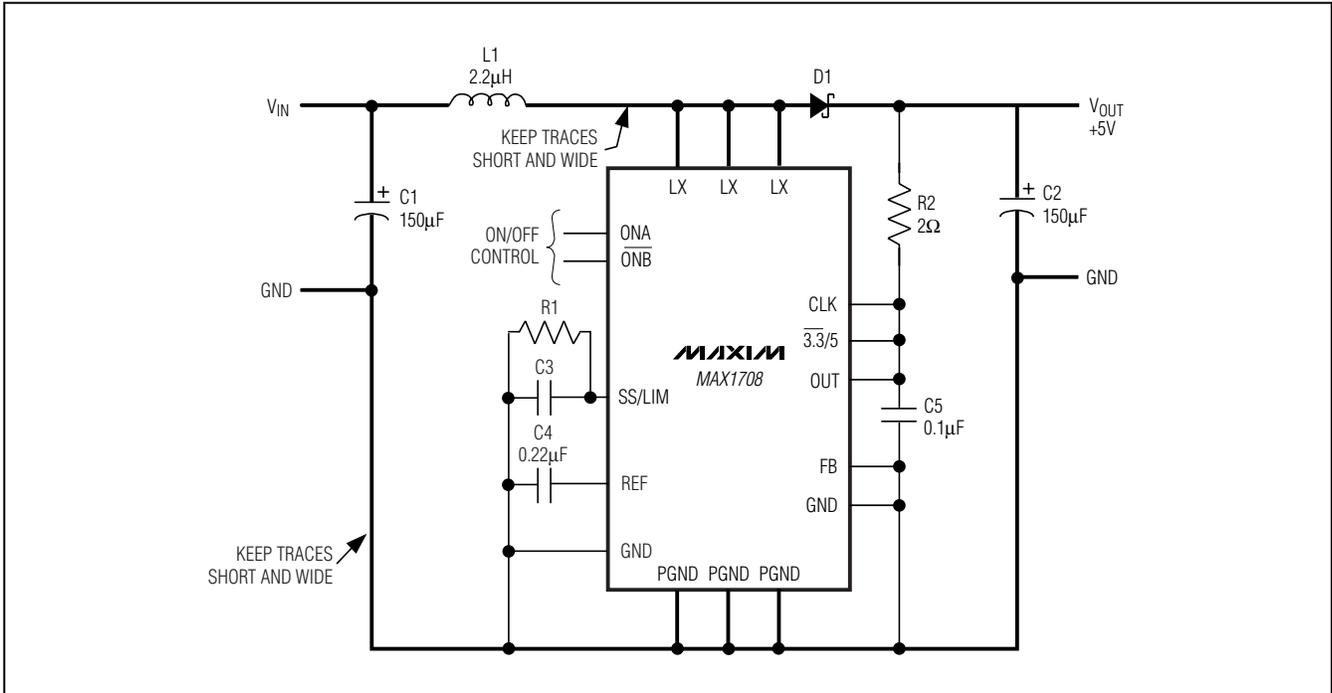
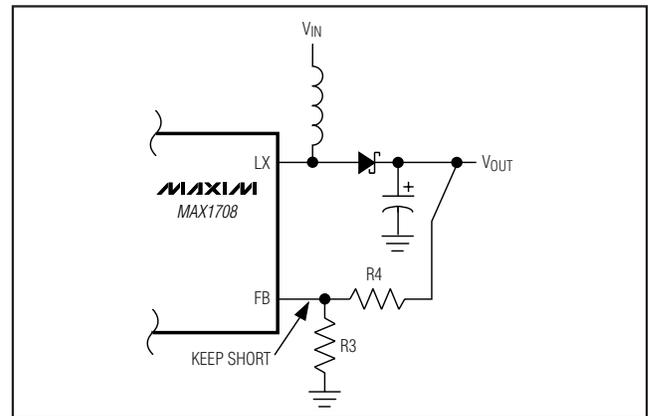

Figure 1. Standard Operating Circuit
Figure 4. Adjustable Output Voltage
Note 4: Startup is tested with Figure 1's circuit. Output current is measured when both the input and output voltages are applied.
(Circuit of Figure 1, $T_A = +25^\circ\text{C}$, unless otherwise noted.)
The MAX1708 features Dual Mode™ operation. When FB is connected to ground, the MAX1708 generates a fixed output voltage of either 3.3V or 5V, depending on the logic applied to the 3.3/5 input (Figure 1). The output can be configured for other voltages, using two external resistors as shown in Figure 4. To set the output voltage externally, choose an R3 value that is large enough to minimize load at the output but small enough to minimize errors due to leakage and the time constant to FB. A value of $R4 \leq 50\text{k}\Omega$ is required
The soft-start pin allows the soft-start time to be adjusted by connecting a capacitor from SS/LIM to GND. Select capacitor C3 (see Figure 1):
To improve efficiency or reduce inductor size at reduced load currents, the current limit can be reduced from its nominal value (see *Electrical Characteristics*). A resistor (R1 in Figure 1) between SS/LIM and ground reduces the current limit as follows:
- I_{LIM} = minimum value of switch current limit from *Electrical Characteristics* or set by R1 of Figure 1.
The output filter capacitor ESR must be kept under 30mΩ for stable operation. Polymer capacitors of 150μF (Panasonic EEFUE0J151R) typically exhibit 10mΩ of ESR. This translates to approximately 35mV of output ripple at 3.5A switch current. Bypass the MAX1708 IC supply input (OUT) with a 0.1μF ceramic capacitor to GND and a 2Ω series resistor (R2, as shown in Figure 1).
Due to high inductor current levels and fast switching waveforms, proper PC board layout is essential. Protect sensitive analog grounds by using a star ground configuration. Connect PGND, the input bypass capacitor ground lead, and the output filter capacitor ground lead to a single point (star ground configuration). In addition, minimize trace lengths to reduce stray capacitance and trace resistance, especially from the LX pins to the catch diode (D1) and output capacitor (C2) to PGND pins. If an external resistor-divider is used to set the output voltage (Figure 4), the trace from FB to the resistors must be extremely short and must be shielded from switching signals, such as CLK or LX. To optimize package power dissipation and minimize device heating under heavy loads, expand PC trace area connected to the three PGND pins as much as the layout can allow. This is best accomplished with a large PGND plane on the surface of the board. Also note that outer-layer ground plane area beneath the device provides little heat-sinking benefit. If an outer-layer ground plane is not feasible, the PGND pins should be connected to the inner-layer ground plane with multiple vias (at least three vias per pin is recommended). Since the purpose of these vias is to optimize thermal conductivity to the inner ground plane, be sure that the vias have no gaps in their connections to the ground plane. Refer to a layout example in the MAX1708EVKIT data sheet.